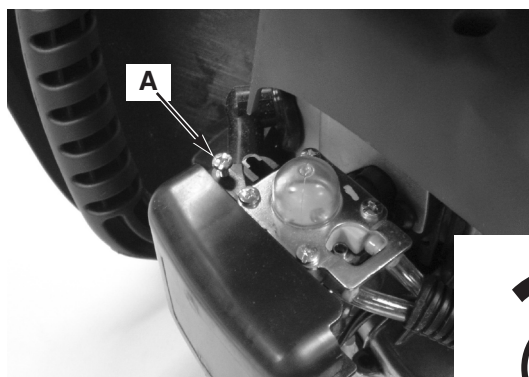

Fig. 9
2. Insert phillips or flat screwdriver on screw (A) (figure 9). Turn 1/8 turn clockwise to increase idle speed and 1/8 turn counterclockwise to decrease idle speed.